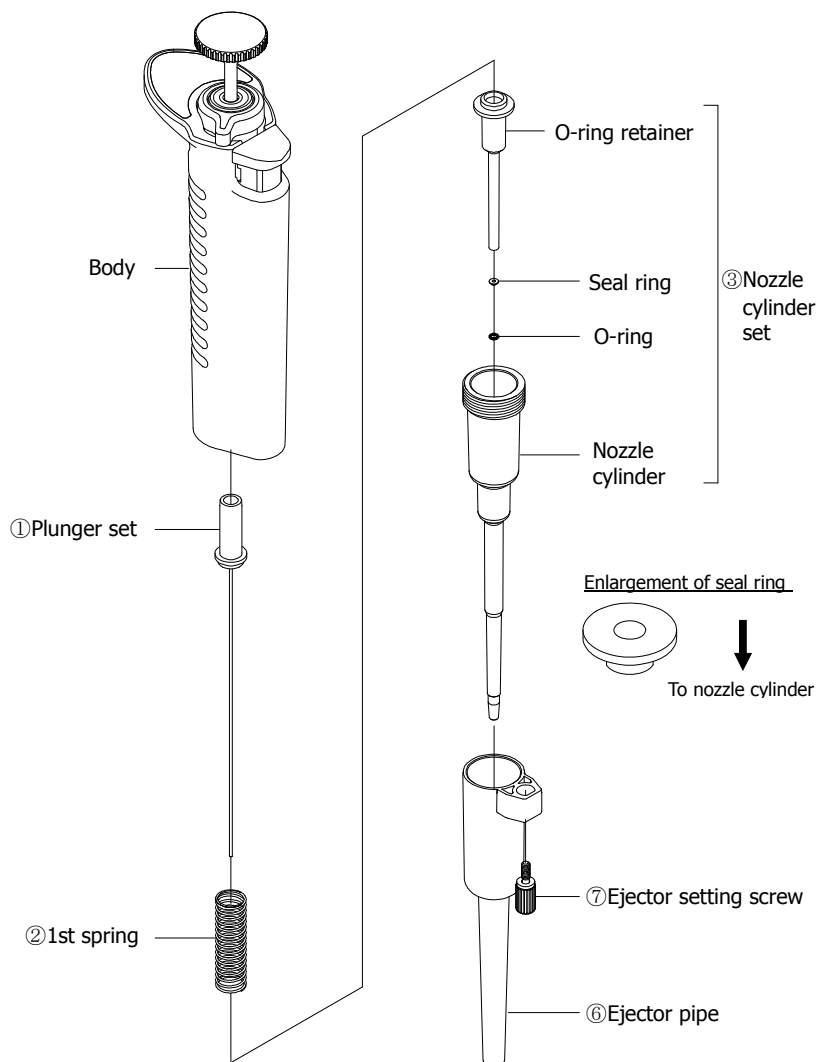
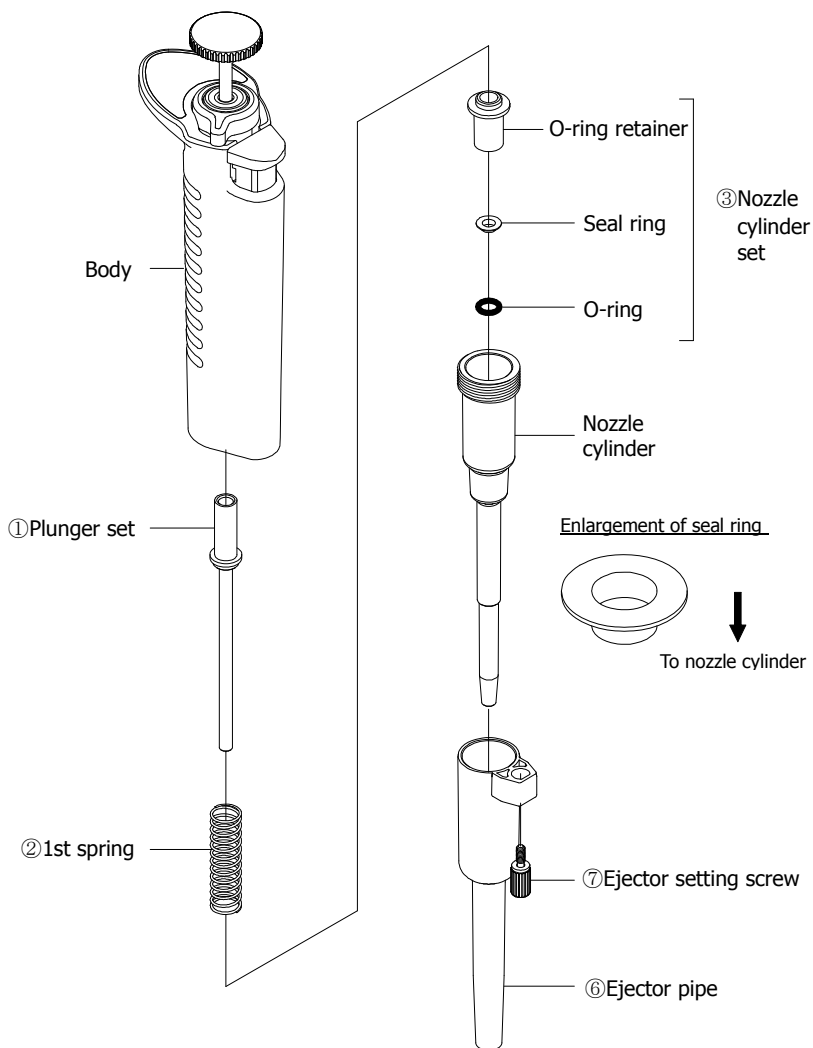
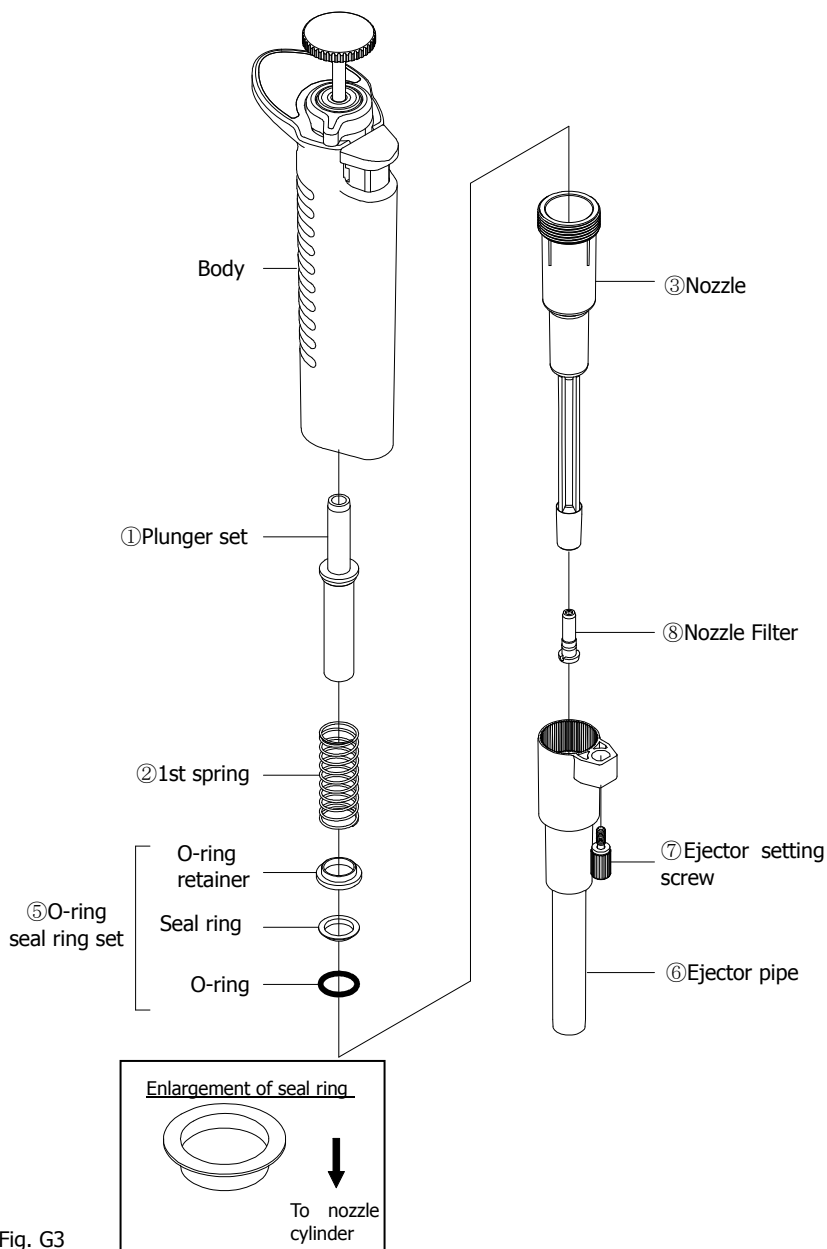

Fig. G1
Fig. G2
Fig. G3
③ Remove internal parts one after another.
- 2uL-1000uL : Fig.G1, G2, G3
① Reassemble nozzle cylinder.
- 2, 10, 20uL : Fig. G1, 100, 200uL : Fig G2, 1000uL : Fig G3
②Fit the ejector pipe to the body.
- 2, 10, 20uL : Fig G1, 100,200uL : Fig. G2 1000uL: Fig. G3